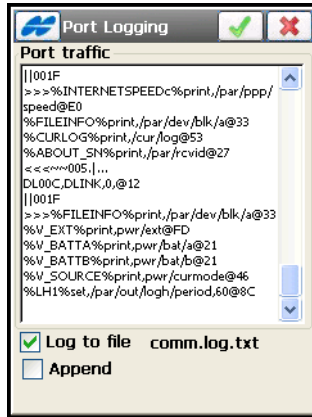

Figure 1-15. Logging to File
- Pressing the ok button  returns to the *Port Logging* screen to view the data being saved to file. The file name is also shown on the screen (Figure 1-15 on page 1-12).